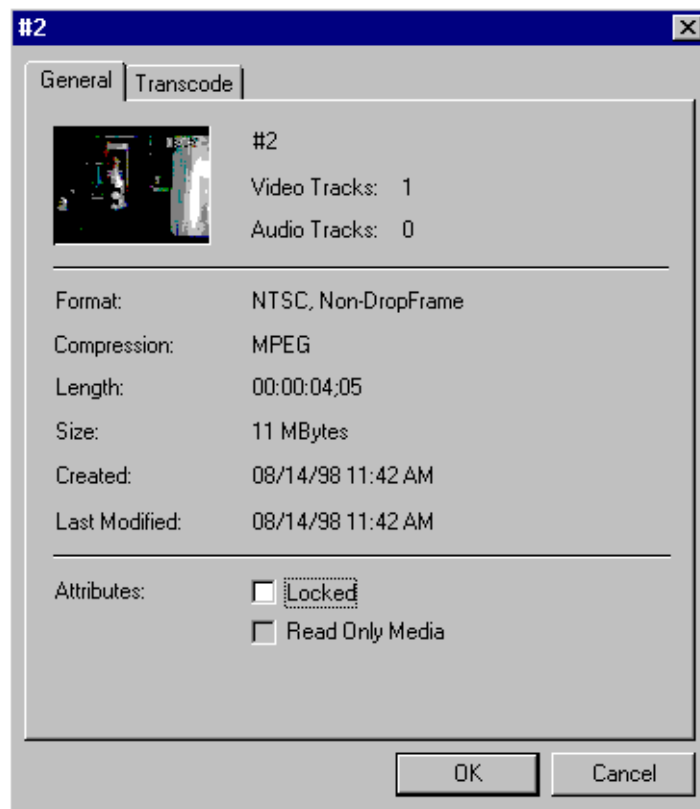

Figure 54. Properties dialog box for clips or masters
2. Choose **Properties** from the **File** menu or from the shortcut menu with a right-click. You can also click the **Properties** button on the toolbar. The Properties dialog box for clips or masters appears (see Figure 54).